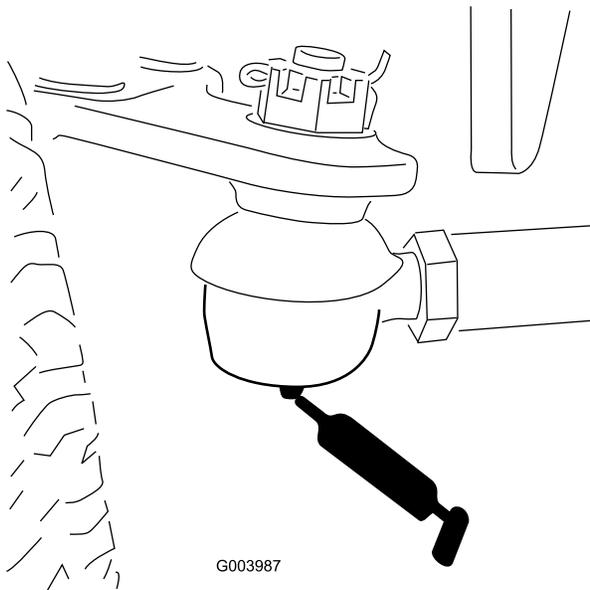

Figure 57
- Rear axle tie rod (2) (Figure 57)